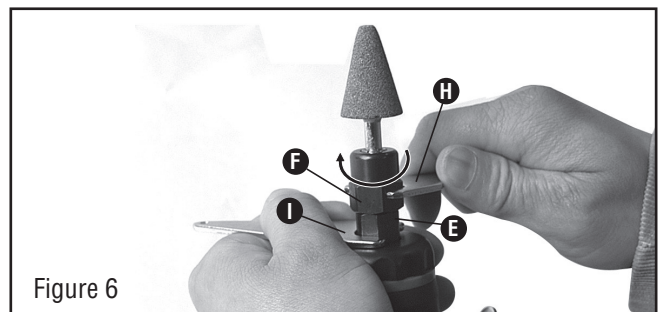

Figure 6
6. Tighten the collet jacket (F) clockwise with large wrench (H) while holding the small wrench (I) on the flats of the collet holder (E). Make sure that the grinding stone is installed securely and tightly. (See Figure 6)